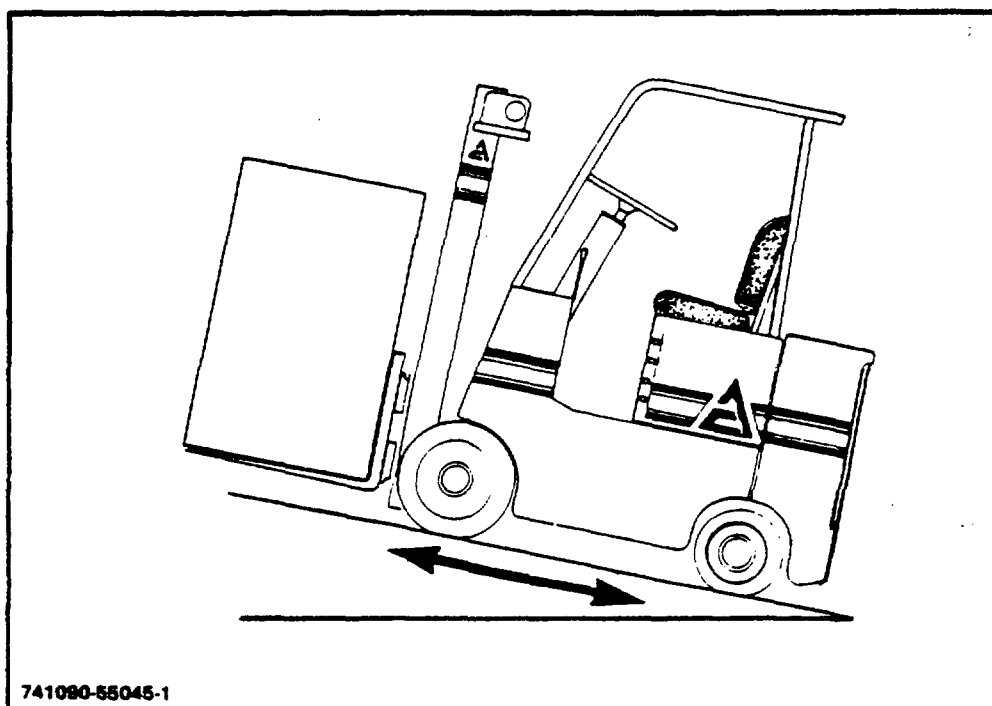

Figure 3-10. Ascending or Descending a Grade
- (6) When ascending or descending a grade travel with the load upgrade (Figs 3-10).